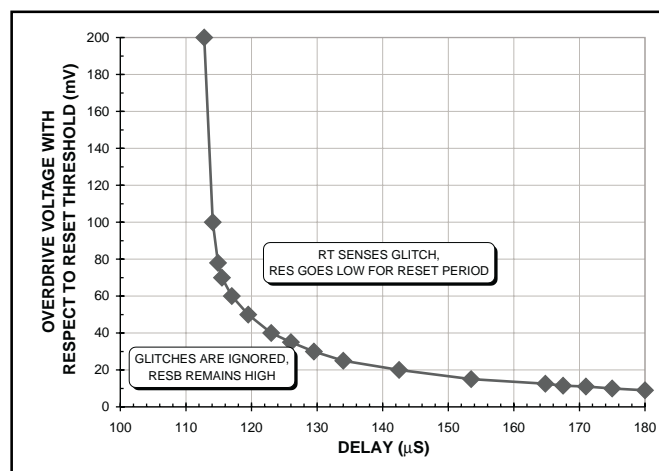

Figure 1. Overdrive voltage vs. delay to output low on RESB.
The UCC3946 is designed to provide accurate microprocessor supervision, including reset and watchdog functions. During power up, the IC asserts a reset signal  $\overline{\text{RES}}$  with VDD as low as 1V. The reset signal remains asserted until the VDD voltage rises and remains above the reset threshold for the reset period. Both reset threshold and reset period are programmable by the user. The IC is also resistant to glitches on the VDD line. Once  $\overline{\text{RES}}$  has been deasserted, any drops below the threshold voltage need to be of certain time duration and voltage magnitude to generate a reset signal. These values are shown in Figure 1. An I/O line of the microprocessor may be tied to the watchdog input (WDI) for watchdog functions. If the I/O line is not toggled within a set watchdog period, programmable by the user,  $\overline{\text{WDO}}$  will be asserted. The watchdog function will be disabled during reset conditions.
**RES:** This pin is high only if the voltage on the RTH has risen above 1.235V. Once RTH rises above the threshold, this pin remains low for the reset period. This pin will also go low and remain low if the RTH voltage dips below 1.235V for an amount of time determined by Figure 1.
The UCC3946 supervisory circuit provides accurate reset and watchdog functions for a variety of microprocessor applications. The reset circuit prevents the microprocessor from executing code during undervoltage conditions, typically during power-up and power-down. In order to prevent erratic operation in the presence of noise, voltage "glitches" whose voltage amplitude and time duration are less than the values specified in Fig. 1 are ignored.